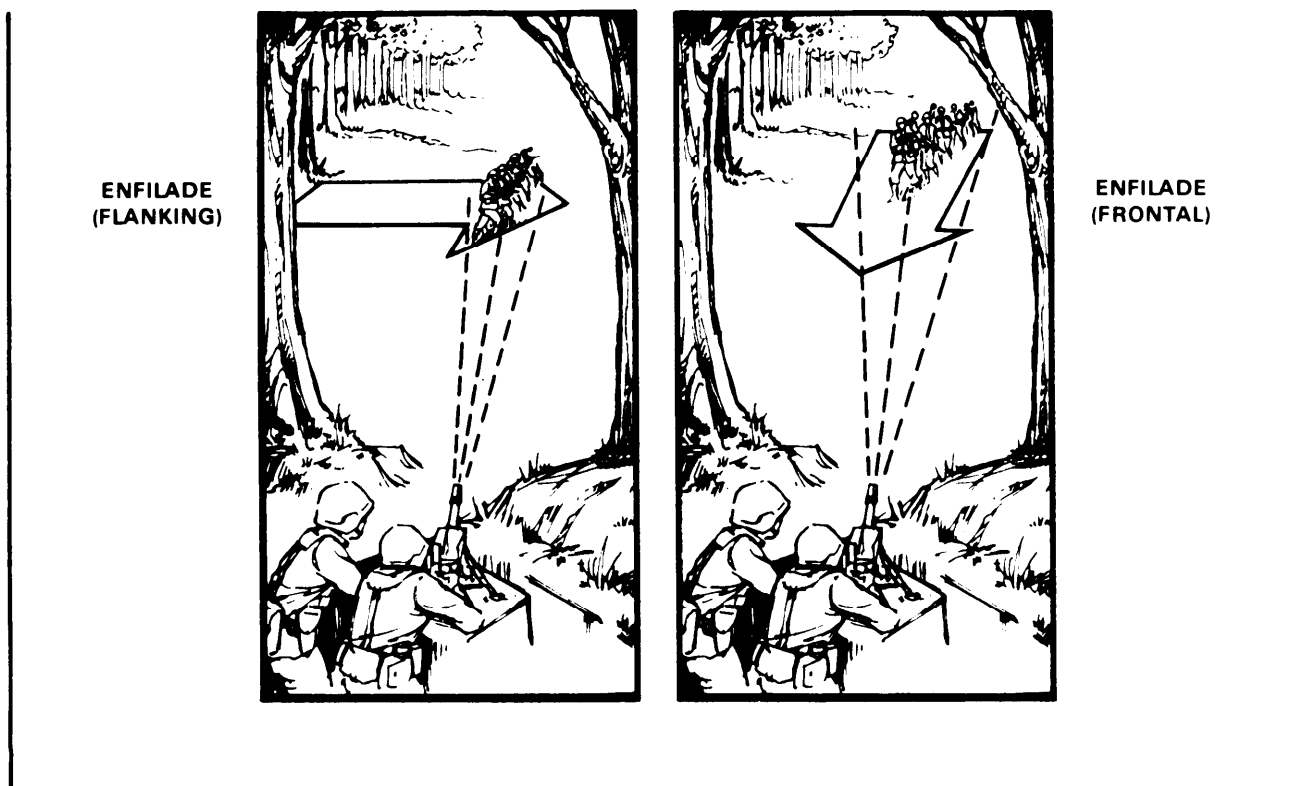

Figure 6-2. Classes of fire with respect to the target.
b. Respect to the Target. This class of fire is divided into four types of fire (Figure 6-2):
(1) Frontal. This type of fire is delivered against a target's front, with the target moving toward the firing position.